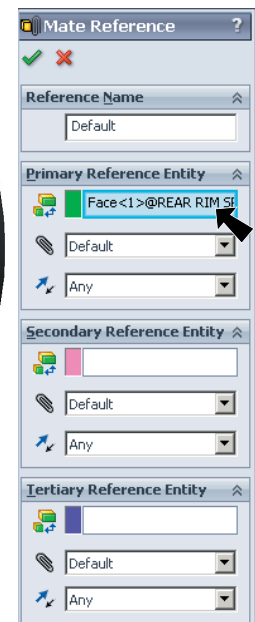

Fig. 20
Step 4. In the Mate Reference Property Manager click OK , **Fig. 20**.